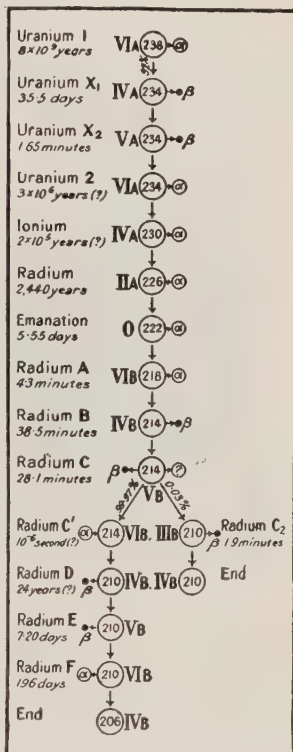

FIGURE 723.—DISINTEGRATION OF URANIUM ACCORDING TO SODDY.
**497. Radioactive Decay.** — The facts that have been stated indicate that, since each radium atom that disintegrates loses a helium atom, the radium atom must change into an atom of another element of less atomic weight. When a quantity of a radium salt is dissolved in water, it is found that this new element, *radon* or *radium emanation*, may be collected in the form of a heavy gas of intense radioactivity. Radon loses half of its activity in about 3.85 days. Its disintegration results in the formation of a series of short-lived elements (Figure 723) of various degrees of radioactivity, and the final product is apparently lead. Radium itself is believed to be the result of several disintegrations, starting with uranium.